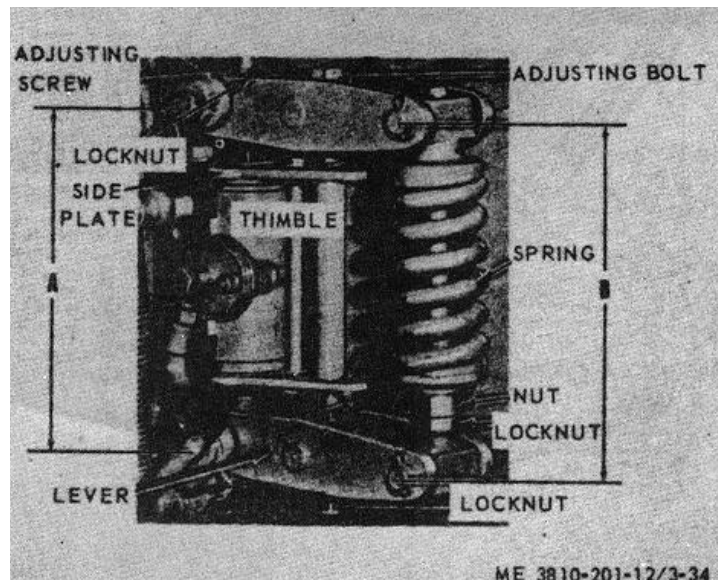

Figure 3-26. Boom hoist brake adjustment points.
b. To adjust boom hoist brake, sufficient tension must be placed on spring (fig. 3-26) to hold boom in desired position. Position boom hoist lever in neutral. (With boom hoist lever in neutral brake is applied and clutch is disengaged). Turn nut clockwise until brake band is tight, then tighten locknut.